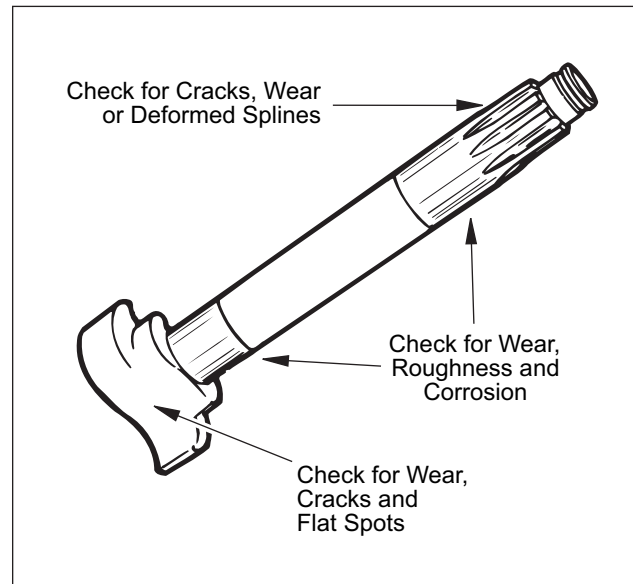

Figure 39. Camshaft Inspection
1. Refer to Figure 39. Check spline end for cracks, worn or deformed splines. Replace as necessary.